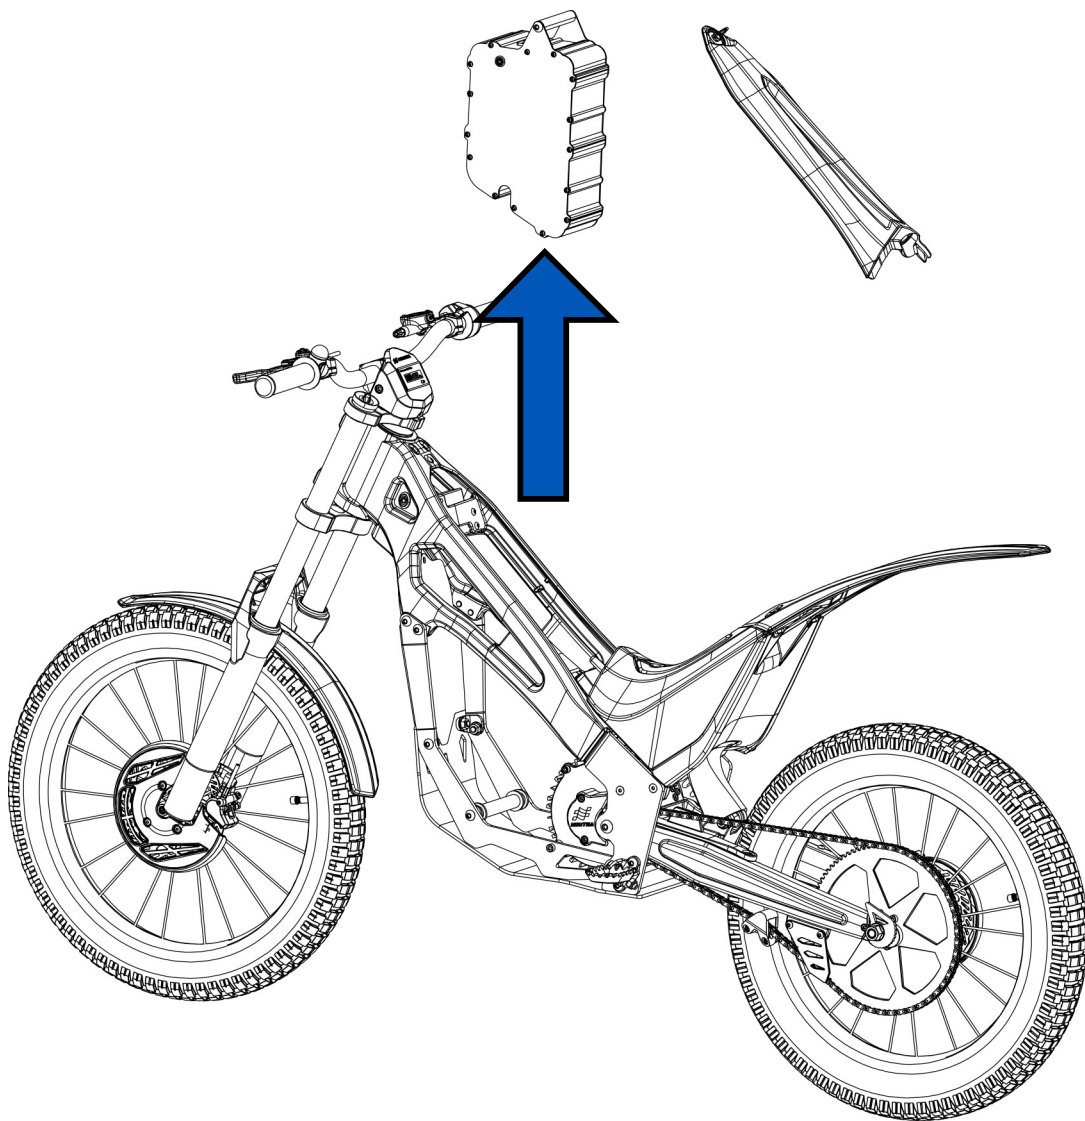

Fig. 28
- 6- Then remove the battery from the motorcycle (Figure 28).